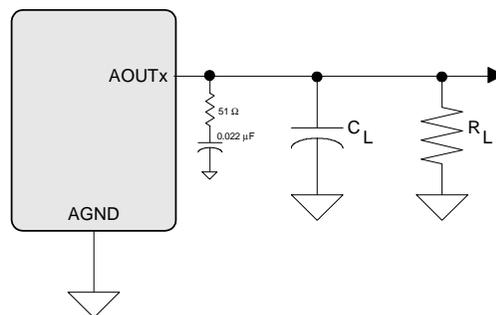

Figure 3. Headphone Output Test Load
(Test conditions (unless otherwise specified): Input test signal is a full-scale 997 Hz sine wave; measurement bandwidth is 10 Hz to 20 kHz; Sample Frequency = 48 kHz and 96 kHz; test load $R_L = 10\text{ k}\Omega$, $C_L = 10\text{ pF}$ for the line output (see Figure 3), and test load $R_L = 16\ \Omega$, $C_L = 10\text{ pF}$ (see Figure 3) for the headphone output.
Test conditions (unless otherwise specified): Input test signal is a full-scale 997 Hz sine wave; measurement bandwidth is 10 Hz to 20 kHz; Sample Frequency = 48 kHz; test load $R_L = 10\text{ k}\Omega$, $C_L = 10\text{ pF}$ (see Figure 3).
Test conditions (unless otherwise specified): Input test signal is a full-scale 997 Hz sine wave; measurement bandwidth is 10 Hz to 20 kHz; Sample Frequency = 48 kHz; test load $R_L = 16 \Omega$, $C_L = 10 \text{ pF}$ (see Figure 3).
11. See Figure 3. R_L and C_L reflect the recommended minimum resistance and maximum capacitance required for the internal op-amp's stability and signal integrity. In this circuit topology, C_L will effectively move the band-limiting pole of the amp in the output stage. Increasing this value beyond the recommended 150 pF can cause the internal op-amp to become unstable.